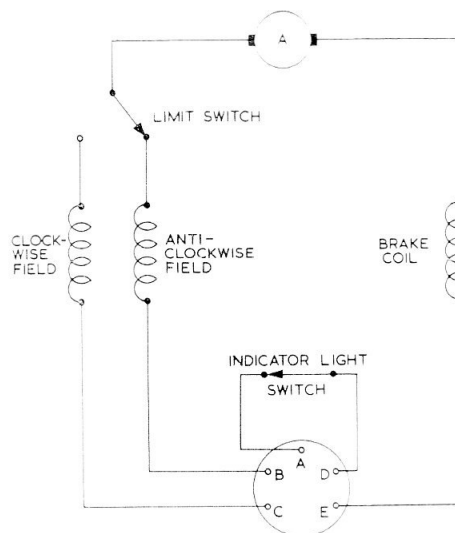

Fig. 2. Diagram of internal connections
- (1) No adapter housing or visual indicator is fitted.
- (2) The output shaft has a travel of 90 deg., and a tongue drive.
- (3) There is a single warning light switch (*fig. 2*), which operates 8 to 10 deg., after the output shaft leaves the SHUT position.